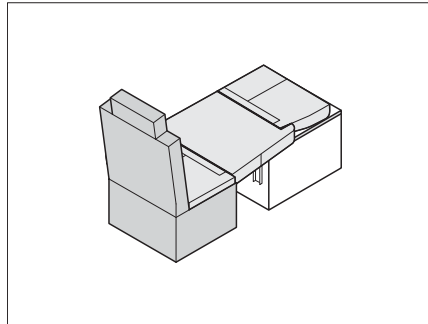

Fig. 194 Positioning the seat cushions
- Lay on the seat and additional cushions as shown in Fig. 194.